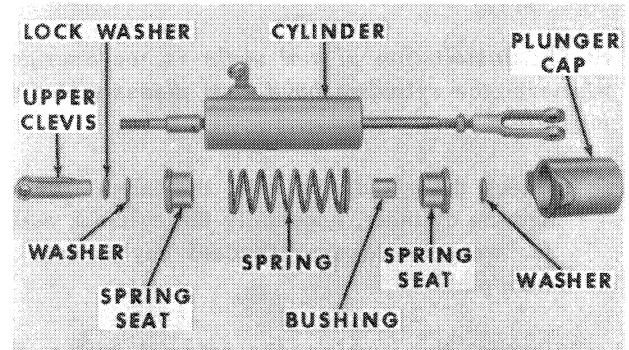

Figure 16
1. Remove the plunger cap, the spring seats, the spring, the bushing, and the two flat washers, Figure 16, by removing the upper clevis from the cylinder rod.
Refer to Figures 16 and 18 for parts identification.